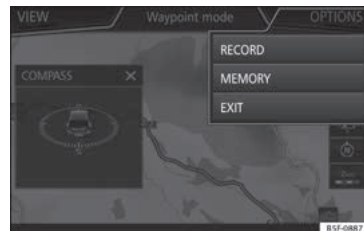

Fig. 239 Offroad Navigation Menu start
- The Offroad Navigation menu opens >>> **Fig. 239**.